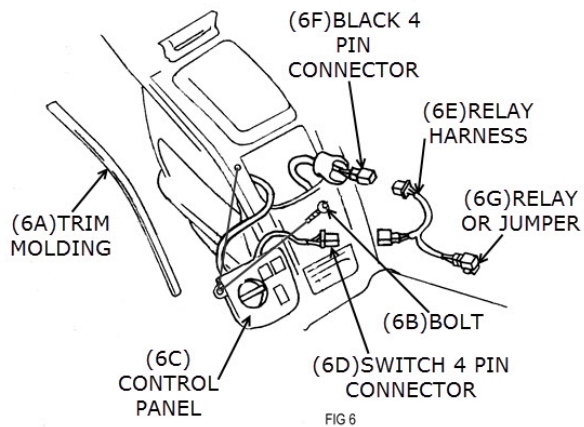

FIG 6
10. REMOVE THE LEFT SIDE FAIRING TRIM MOLDING (6A). SEE TO FIGURE 6.
11. REMOVE THE ALLEN BOLT (6B) AND REMOVE THE LEFT CONTROL PANEL (6C). SEE TO FIGURE 6.
15. PLUG THE 4-PIN CONNECTOR (6D) FROM THE SWITCH INTO THE RELAY HARNESS (6E). PLUG THE RELAY HARNESS (6E) TO THE MOTORCYCLES ACCESSORY BLACK 4-PIN CONNECTOR (6F). SEE TO FIGURE 6.